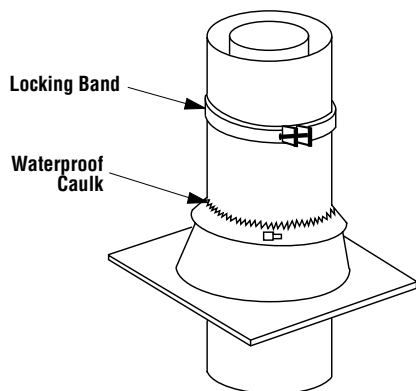

Figure 30
Step 8. The standard Security Chimneys™ FTF10 roof flashing assemblies include a storm collar. Slide the storm collar over outer chimney, rest on flashing spacers and align with top surface of flashing. Insert tab in slot, pull tight and bend tab back over slot. Seal storm collar to outer chimney with roof caulking or mastic around entire circumference of pipe. Also add extra roof caulking to the tab/slot area to seal completely against water penetration (**Figure 30**). Check all joints very carefully to ensure no water intrusion can take place.
Use the nut provided and TIGHTEN snugly. Do not overtighten as this might damage the chimney section (refer to **Figure 30**).